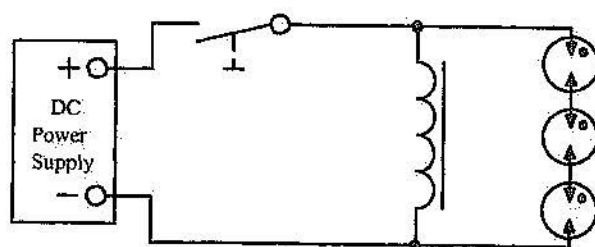

Figure 9
14. Connect three lamps in series across the coil as shown in figure 9.